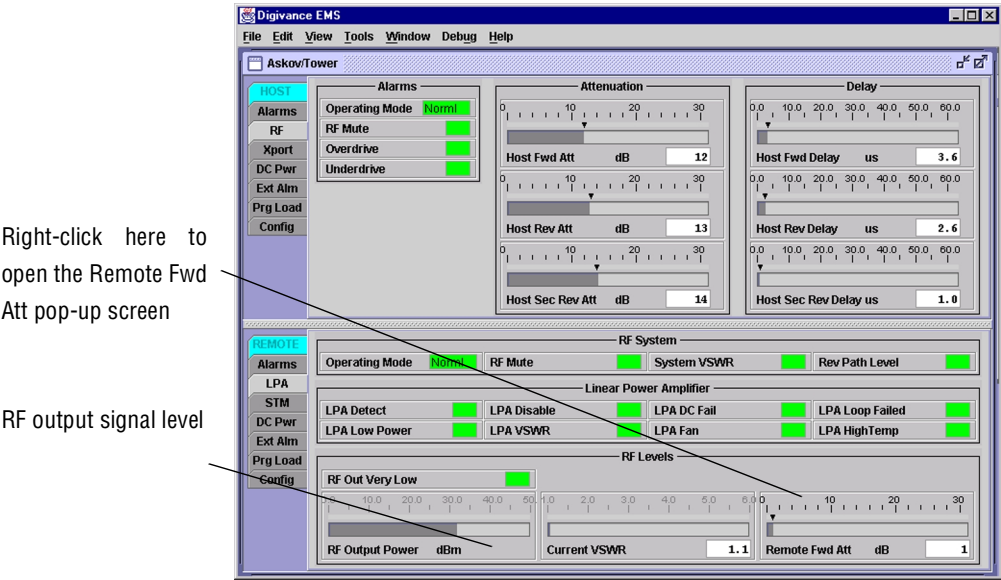
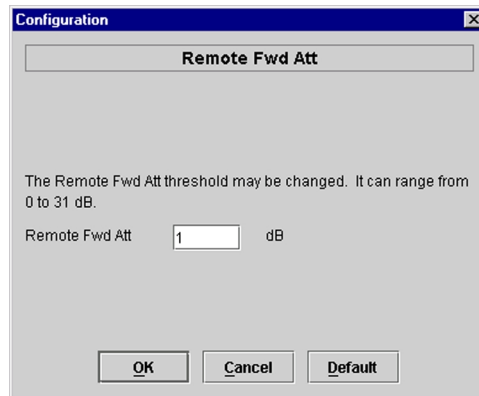

Figure 4-10. REMOTE LPA Display
Figure 4-11. Remote Fwd Att Pop-Up Screen
1. Click on the **REMOTE LPA** tab. The **REMOTE LPA** display will open within the EMS main window as shown in Figure 4-10.
4. Right-click on the **Remote Fwd Att** section of the display (see Figure 4-10). The **Remote Fwd Att** pop-up screen will open as shown in Figure 4-11.
6. Verify that the appropriate RF output signal level appears in the **RF Pwr-VSWR Low** section (see Figure 4-10). This is primarily a reference value and should not take the place of external test equipment when determining the power level of the composite RF output signal. Depending on the modulation type and number of channels, the EMS software may report a power level that is higher or lower than the actual RF output signal.